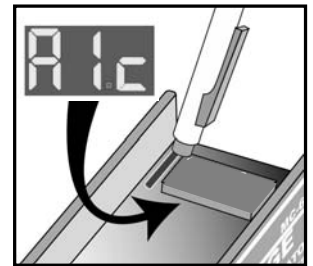

Figure 18 - Time adjustment. Absorption time shown.
1. **ACTIVATE-HOLD** switch when the desired code is displayed (see Figure 18. B1c=bulk, A1c=absorption, and F1c=float time). Standard preset program times will be highlighted. Display will scroll upward. **RELEASE** when desired value is shown.